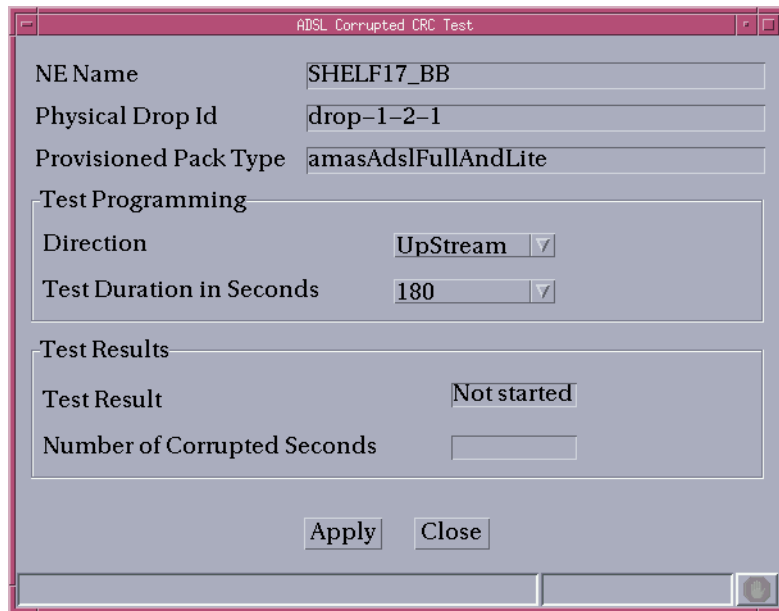

Figure 8-19 ADSL Corrupted CRC Test window
4. Wait until the test is finished and view the test result in the *ADSL Corrupted CRC Test* window (cf. Figure 8-19, page 8-48).